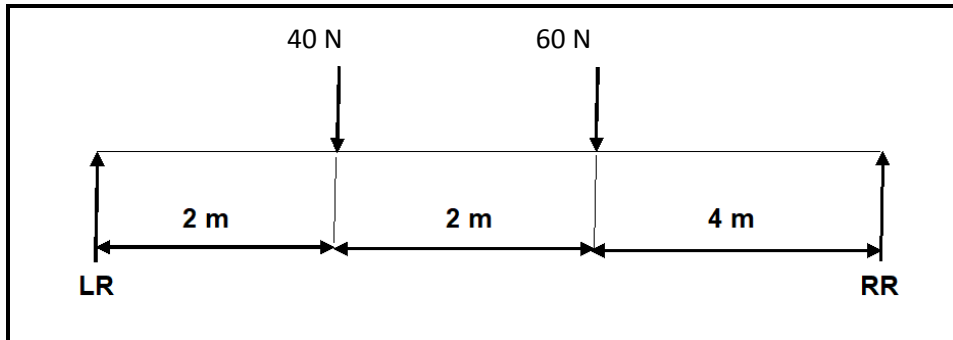

FIGURE 7.4
- 7.4 FIGURE 7.4 below shows a beam that is supported by two vertical supports RL and RR. Two vertical point loads 40 N and 60 N are exerted onto the beam over the total distance of 8 metres.